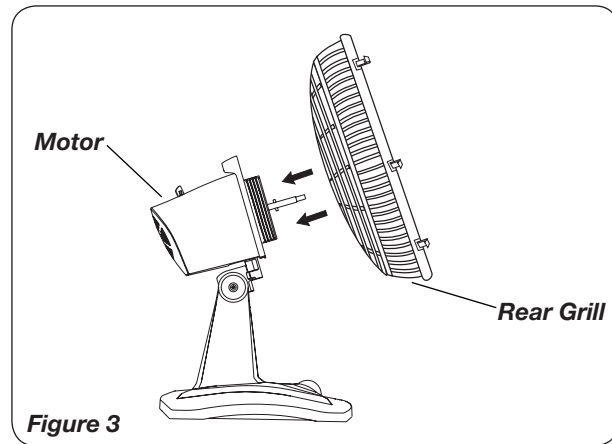

Figure 3
3. Tilt fan head back. Put **Rear Grill** on **Motor**. (Figure 3)